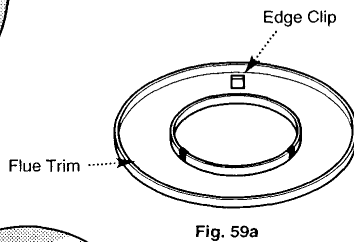

Fig. 59a
- b) Take the three edge clips from the kit and fit them equi-spaced onto the inner flange of the trim (Fig. 59a).